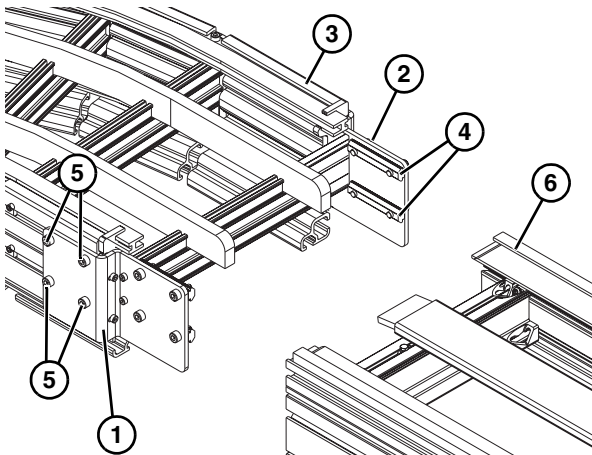

Figure 7
Typical Curve Connecting Components (**Figure 7**)
1. For joining curved to straight sections, install left offset connecting plate (**Figure 7, item 1**) and right connecting plate (**Figure 7, item 2**) onto curved section (**Figure 7, item 3**) with two drop-in tee bars (**Figure 7, item 4**) and four M6x16 socket head screws (**Figure 7, item 5**), making sure the straight frame section is flush to the curve section crossmember.
2. Secure straight section (**Figure 7, item 6**) onto curved section with the same hardware as previous step. Tighten all socket head screws to 60 in-lb (7 Nm).